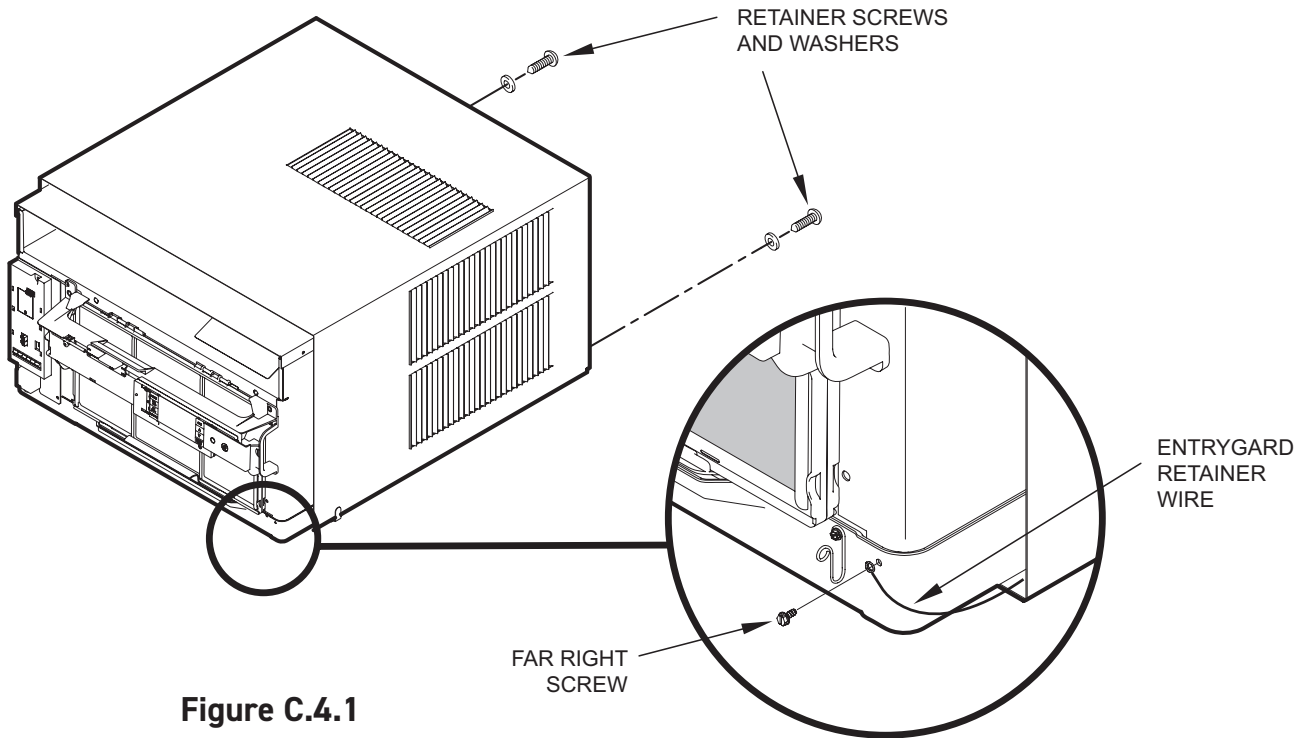

Figure C.4.1
STEP 1. Remove the chassis EntryGard™ retainer by removing the far right screw (see Figure C.4.1). Save this screw to reattach the chassis retainer after installation (Step 12). Also, remove and discard the two retainer screws and washer located at the rear of the unit (see Figure C.4.1).
STEP 13. Reattach the EntryGard™ chassis and EntryGard™ retainer wire with the same screw retained in Step 1 (see Figure C.4.1).